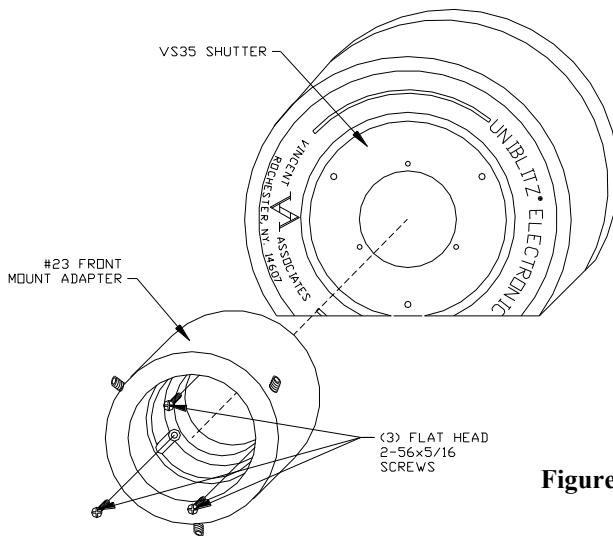

Figure 2
Using (3) 2-56 flat head screws attach #23 front mount to the front of the shutter housing. (see Figure 2)